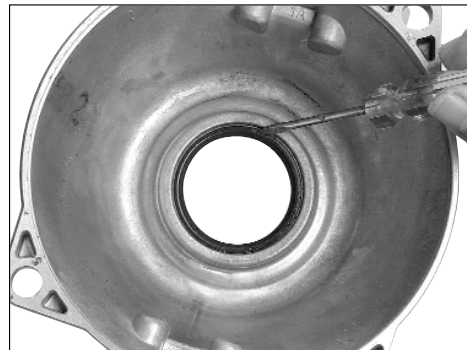

figure 28
2. Knock out the pump shaft seal from the rear of the oil bath housing by tapping seal towards the front of the oil bath housing using a suitable tool. (figure 28)